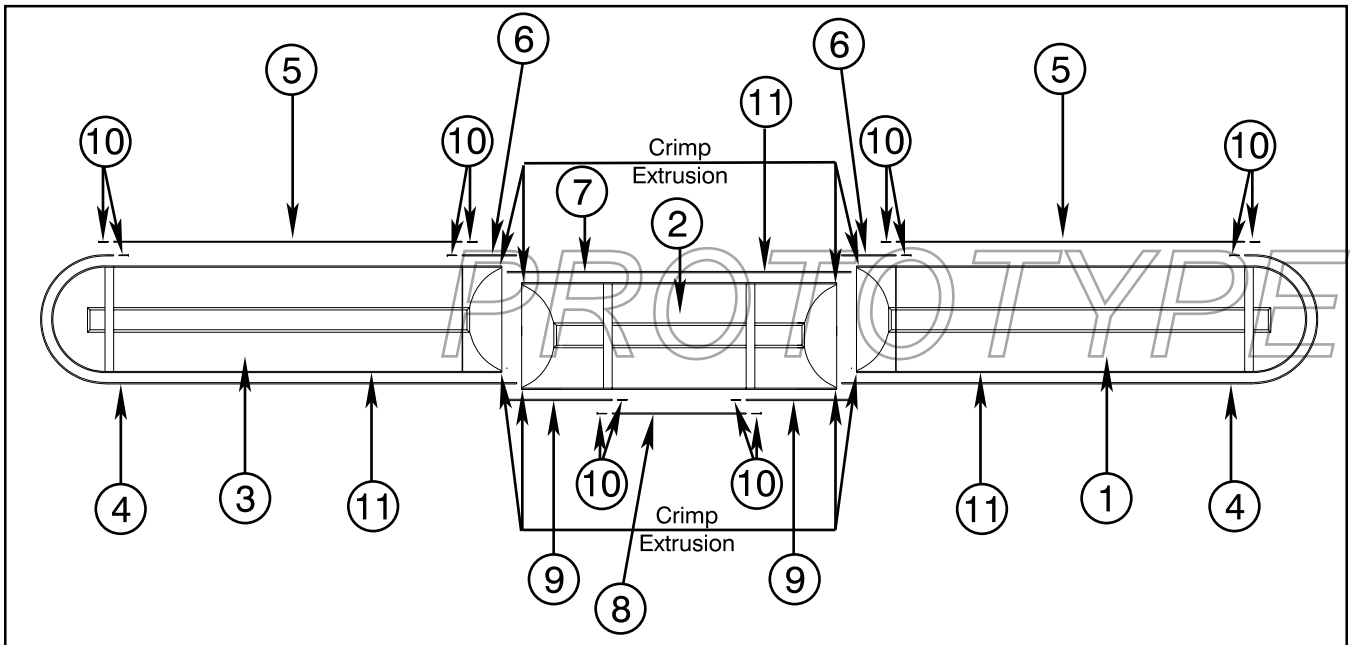

FIG. 19
1. Assemble the Drift Seal sections into the Retainer Molding slots located on the lower edge of the Boom. The longer pieces will be easier to install if a light lubricant such as liquid soap or a silicone based product (i.e. ARMOR-ALL) is used. FIG. 19. The end of the Drift Seal at the Hood opening should be flush with the Drift Seal Retainer Molding.